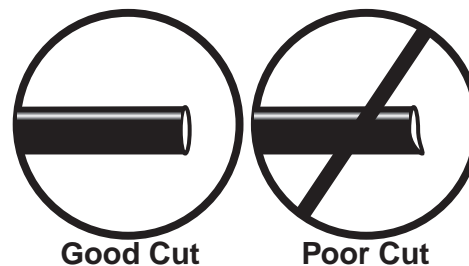

fig. 3
WHEN CUTTING OR TRIMMING THE AIR LINE, USE A HOSE CUTTER, A RAZOR BLADE OR A SHARP KNIFE. A CLEAN, SQUARE CUT WILL ENSURE AGAINST LEAKS. DO NOT USE WIRE CUTTERS OR SCISSORS TO CUT THE AIR LINE. THESE TOOLS MAY FLATTEN OR CRIMP THE AIR LINE, CAUSING IT TO LEAK AROUND THE O-RING SEAL INSIDE THE ELBOW FITTING (FIG. 3)
7. Cut off air line leaving approximately 12" of extra air line. A clean square cut will ensure against leaks (see fig. 3). Insert the air line into the air fitting. This is a push to connect fitting. Simply push the air line into the 90° swivel fitting until it bottoms out (9/16" of air line should be in the fitting).